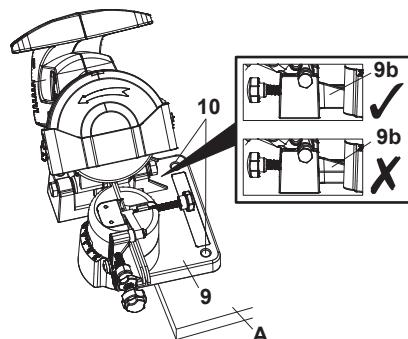

Fig. 3
- Align the base plate (9) to the edge of the workbench (A) (or a similar firm and level surface) (Fig. 3). Pay attention that the middle rim (9) underneath the base plate (9) is aligned to the edge of workbench (A).
- Transfer the hole pattern of the two mounting holes (10) to the surface with a pencil.
- Mount the base plate (9) with suitable hardware (M8 bolts and nuts, not supplied) to the surface of workbench (A).